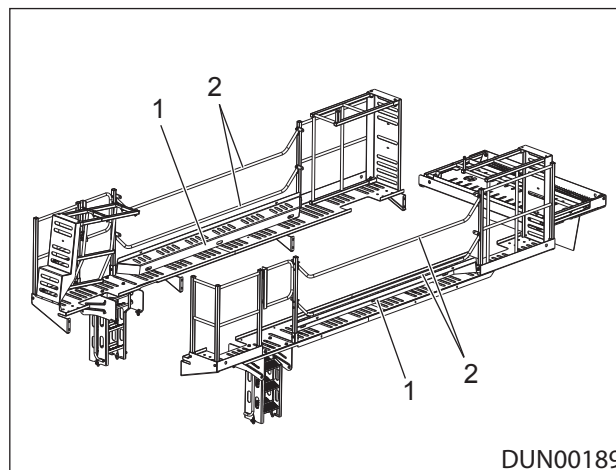

Figure 5.22 - Maintenance Platform in the Transport Position
4. Rotate the bottom section of the maintenance platform (item 1) on both sides of the machine into the transport position, Ref: Figure 5.22.
5. Remove the nuts and bolts from each end of the handrails (item 2), Ref: Figure 5.22.
6. Rotate the upper and lower handrails (item 2) on both sides of the machine into the transport position, Ref: Figure 5.22.
7. Replace and tighten the nuts and bolts in each end of the handrails (item 2) to secure them in the transport position, Ref: Figure 5.22.